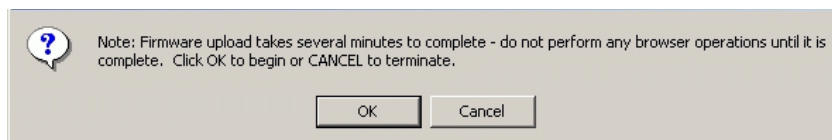

Figure 4-59 Browser-Specific Message Box
4. Click *Send and Load Firmware*. A browser-specific message box displays (Figure 4-59).